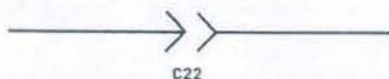

Fig. 4 — Wire Connector Code
- Wire Connector identification code is shown in Figure 4. The key for the connector codes is located at the bottom of the wiring diagram.